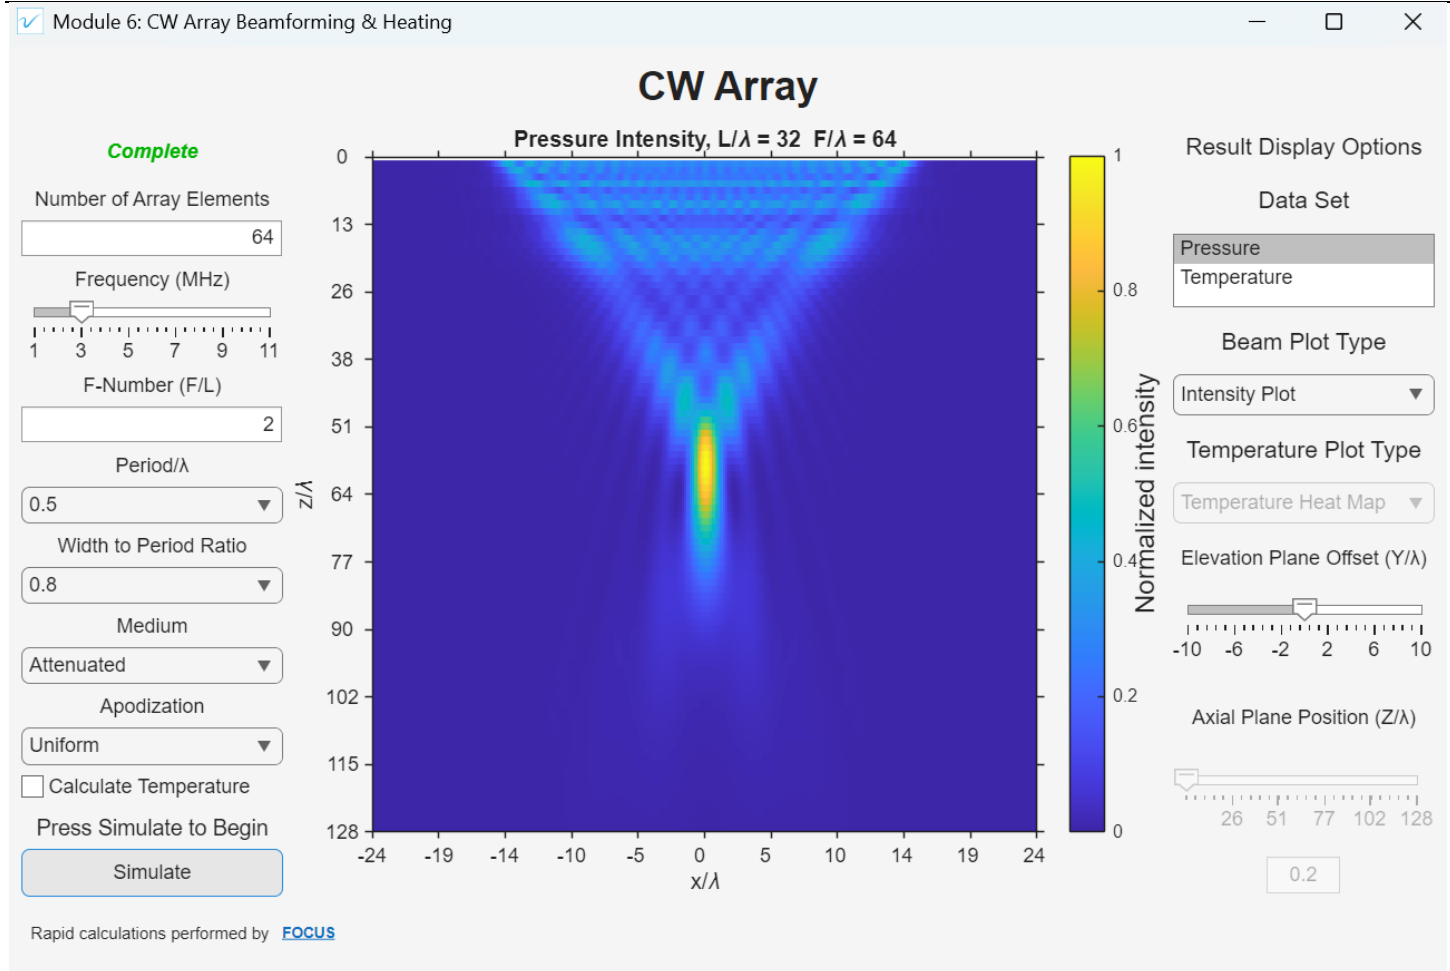
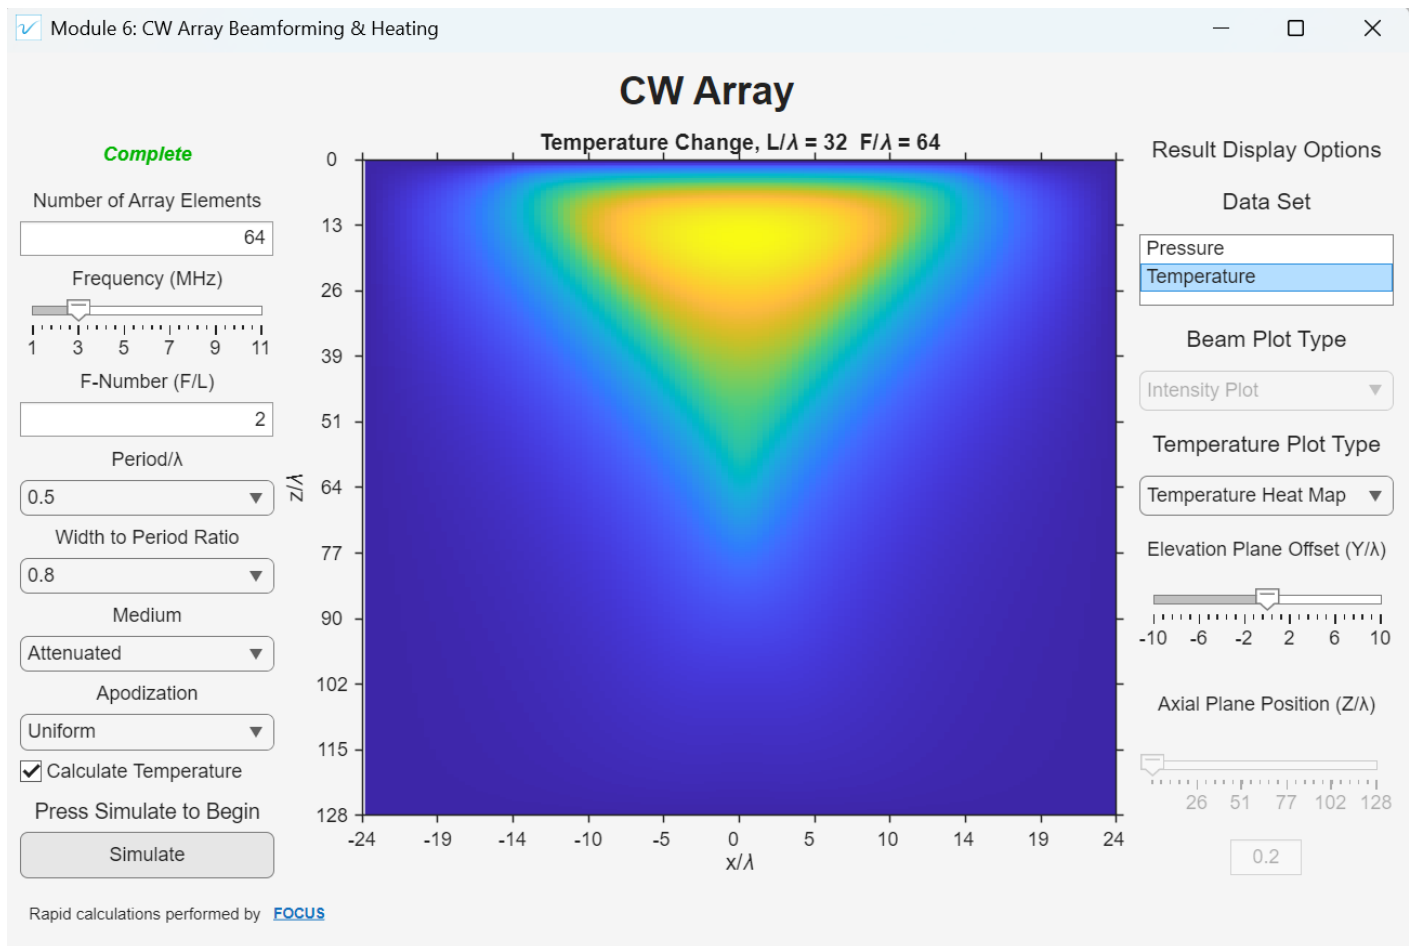

Figure 38: CW Array 3D simulator in Pressure mode Displaying an Intensity Plot
Figure 39: CW Array Simulator -Temperature Mode Displaying Temperature Heat Map
12. Compare the heat pattern to the pressure intensity map by toggling between the Pressure option (shown in Figure 38) and the Temperature option (shown in Figure 39) in the Dataset menu.